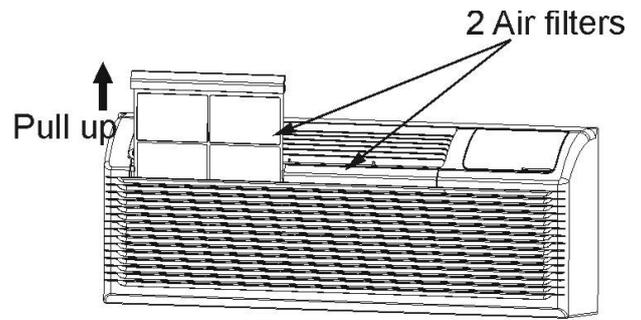

Fig.10
- **Removing Air Filter (See.Fig.10)**